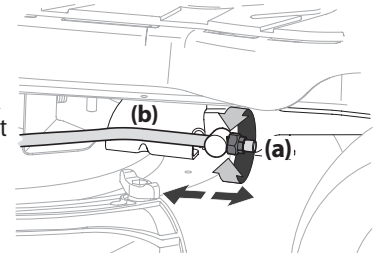

Figure 17
3. Locate the flange lock nut (a) on the front end of the PTO lift rod (b). See Figure 17.